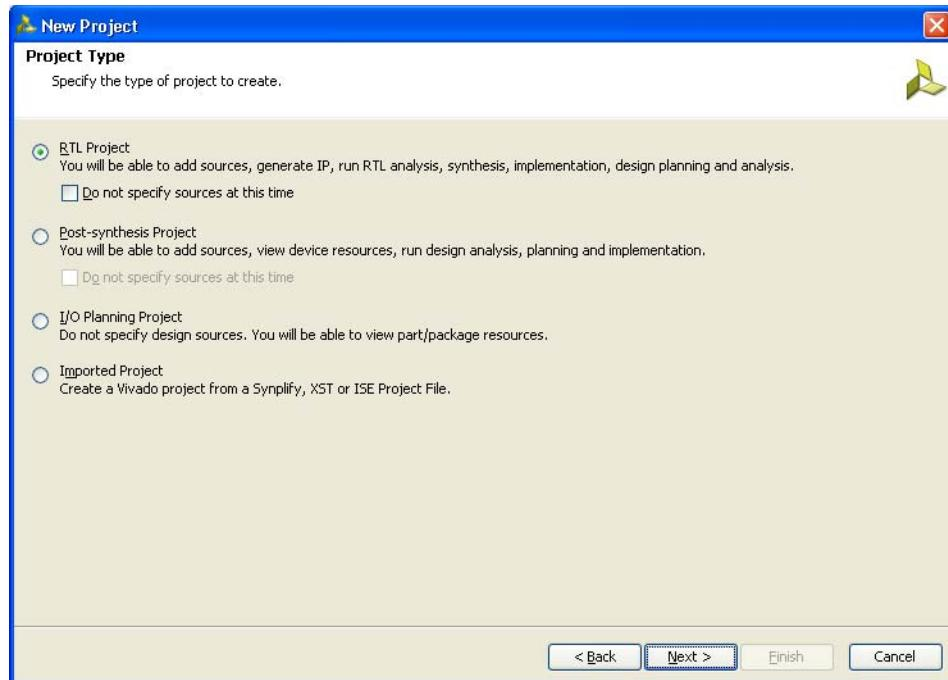

Figure 3-4: Project Type
4. Click **Next** to proceed to the **Project Type** page (Figure 3-4). Select the **Project Type** as **RTL Project** because MIG deliverables are RTL files.